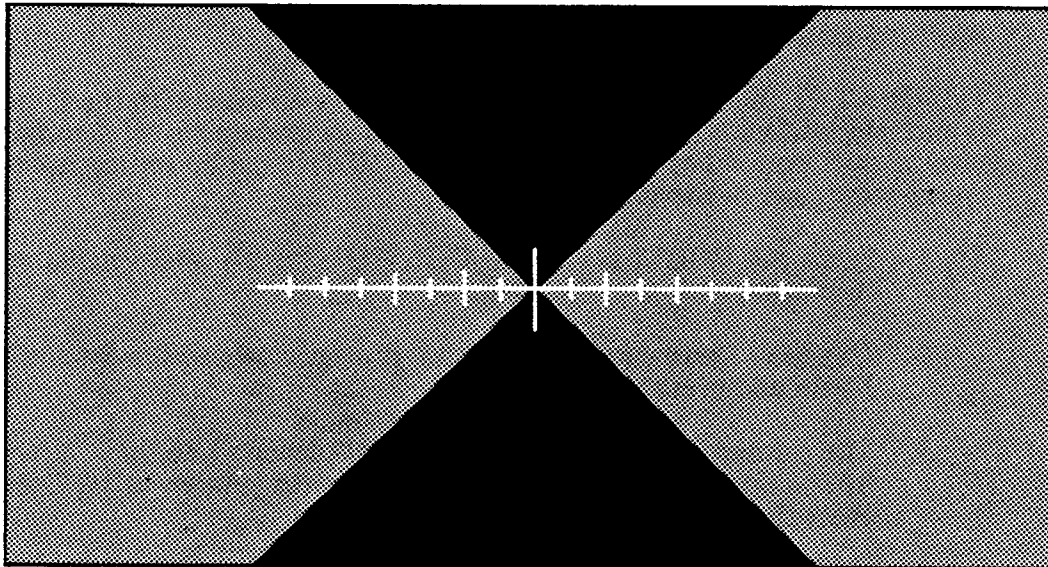

Figure 1-19. Typical Stylus/Reticle Relationship
11. The software reticle may be positioned by pressing the arrow keys. Pressing an arrow key and the **FAST** key simultaneously moves the reticle at high speed. Position the software reticle so that it intersects the point where the tip of the stylus and the stylus shadow meet (Figure 1-19). Press **CLR** to delete the reticle. Pressing **FCTN,5** redisplay the reticle, yet it may not be repositioned without first pressing **FCTN,9,7**.